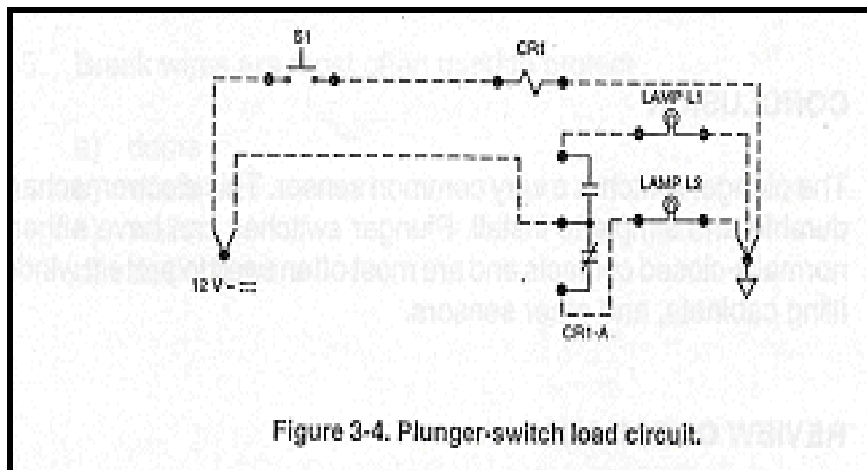

Figure 3-4. Plunger-switch load circuit.
5. Do not disconnect the plunger -switch control circuit in Figure.3-3. Connect the plunger-switch load circuit shown in Figure 3-4 by performing the following steps.